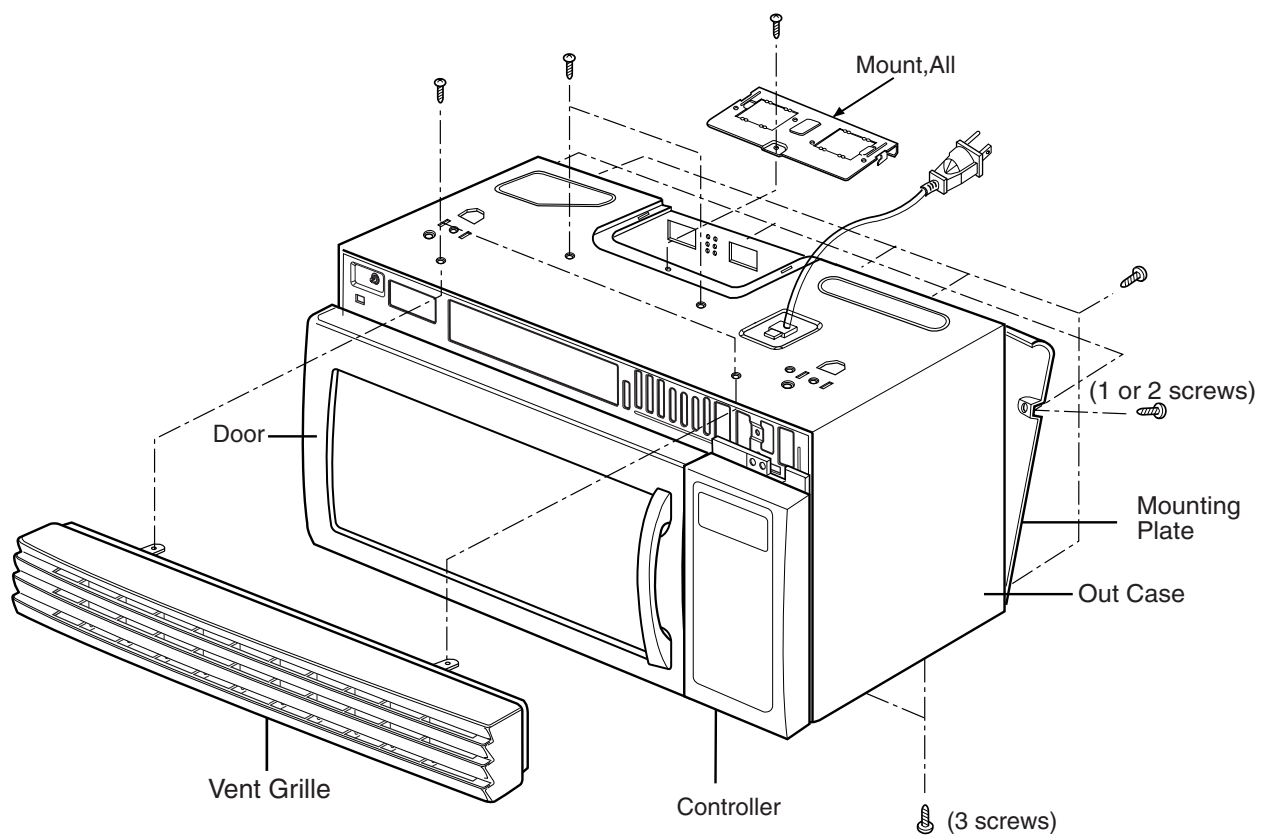

Figure 8
B. REMOVING THE OUTSIDE CASE (Figure 8)
- (1) Remove the vent grille by removing two screws securing it to the outside case.
- (2) Remove two screws securing it to the air duct.
- (3) Remove the mounting plate by turning the screws (1 or 2 screws)securing it to the out case.
- (4) Remove two screws on the left central edge and one screw on the right central edge of Base plate. Remove the Mount, All from the outside case by removing one screw securing it to the outside case.
- (5) Remove six screws of the rear cavity.
- (6) Remove the outside case.